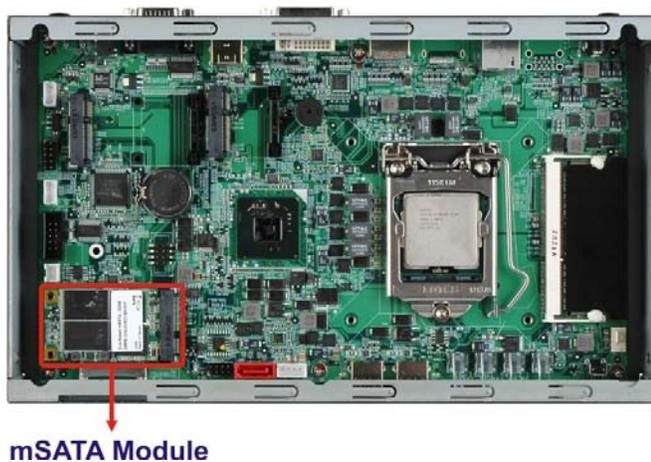

Figure 5-2: mSATA Module Location
Step 2: Locate the mSATA module installed on the motherboard (**Figure 5-2**).